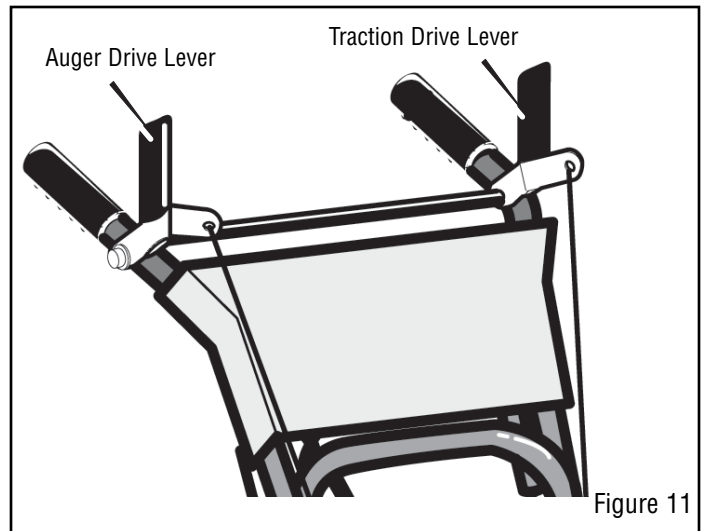

Figure 11
1. To stop throwing snow, release the **auger drive lever** (see Figure 11).
3. Engage the **traction drive lever** (see Figure 11). As the snowthrower starts to move, maintain a firm hold on the handles and guide the snowthrower along the cutting path. Do not attempt to push the snowthrower.
1. Push down the **auger driver lever (right hand)**. See Figure 11.